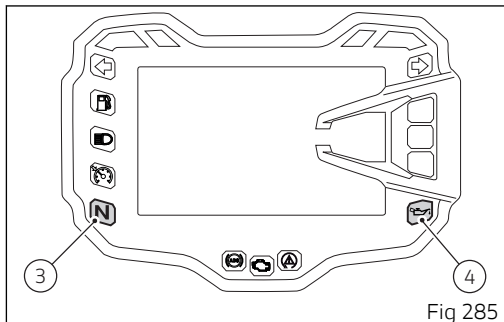

Fig 285
The red oil pressure warning light (4, Fig 285) should go out a few seconds after the engine has started. The engine will shut off by turning the red button (1) on the handlebar to RUN OFF. To turn on the "Hands free" system and all electronic onboard systems, refer to page 270 "Hands Free System".